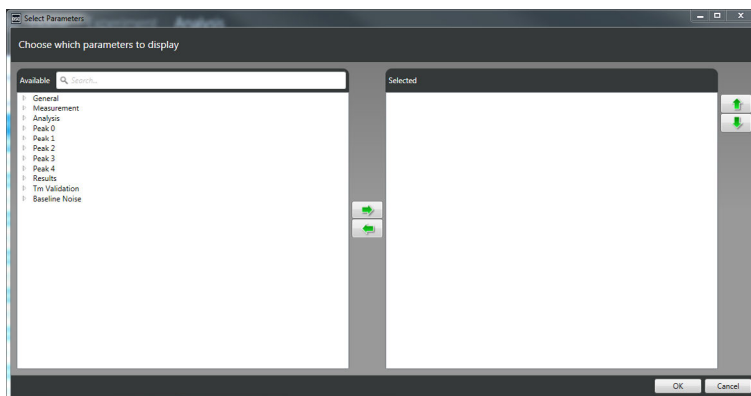

Figure 6.8 Select Parameters window
4. Click , then **Select Parameters** to open the **Select Parameters** window (Figure 6.8) where you can choose from available parameters to include in the report.